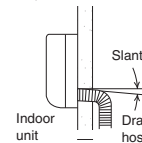

Fig. 3-69
- (a) The drain hose should be slanted downward to the outdoors. (Fig. 3-69)